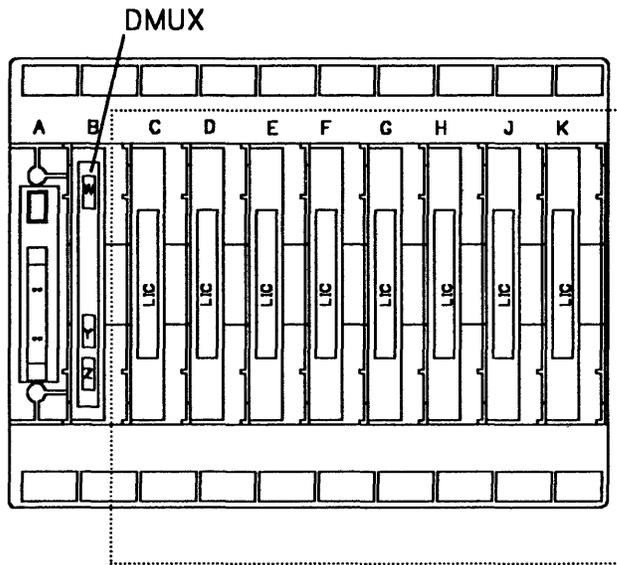

Figure 4-48. DMUX Location
4. For DMUX location refer to Figure 4-48 on page 4-37. The thumb screw color of the DMUX is white.